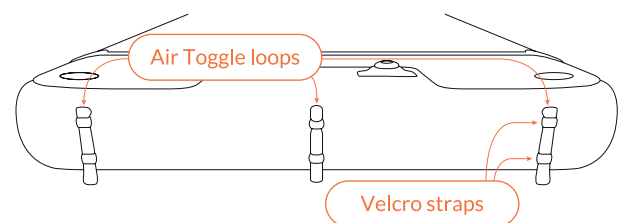

Fig 43 – Air Toggle loops and Velcro straps
6. Secure the Air Toggle loops by folding the loop back on itself then securing with the Velcro straps (Fig 43).